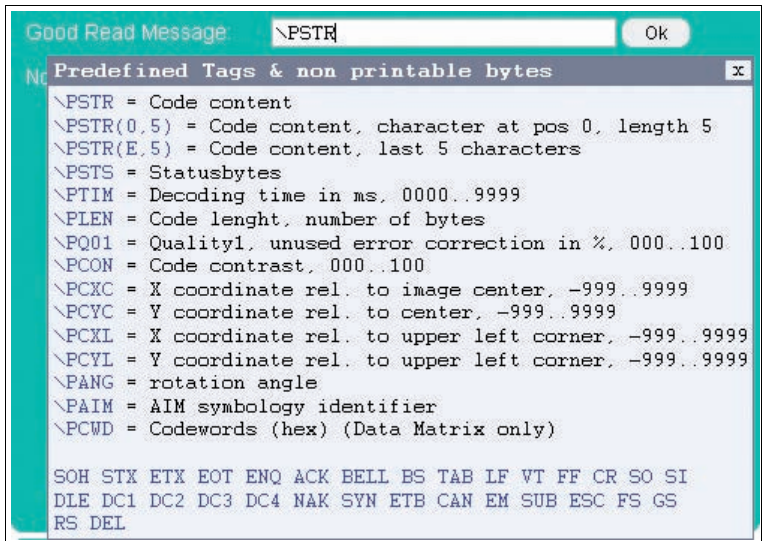

Figure 7.10 Tooltip good read message - bad read message
- **Good read output:** Specifies the character string that will be output if decoding was successful. This field uses Tooltip functionality. A table appears if the mouse pointer remains over one of the two input fields for more than 1 second → see Figure 7.10 on page 31. The table contains placeholders that can be inserted manually or by clicking the mouse. At present, the following information can be output as part of the output string: Code content, code length, status, decoding time, symbol coordinates, etc. A description of the placeholders can be found in the appendix see chapter 9.3.
- **Bad read output:** Specifies the character string that will be output if decoding was unsuccessful. A timeout error will also result in the output of this string. A table appears if the mouse pointer remains over one of the two input fields for more than 1 second → see Figure 7.10 on page 31. The table contains placeholders that can be inserted manually or by clicking the mouse. At present, the following information can be output as part of the output string: Status, decoding time. A description of the placeholders can be found in the appendix see chapter 9.3.